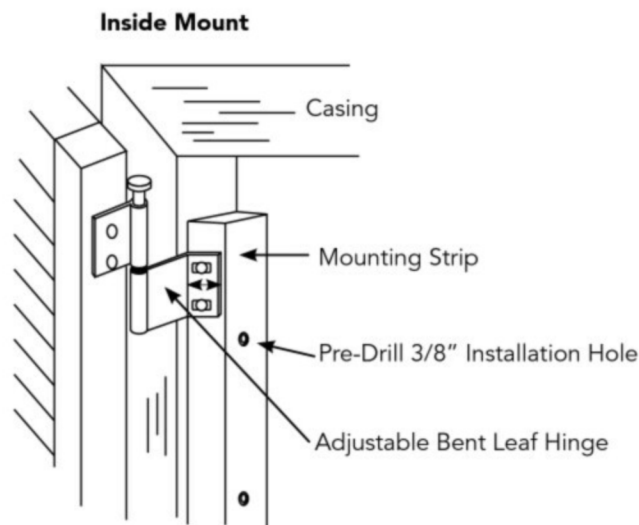

Fig. 5.1
- 3/8" diameter holes must be drilled at each hinge location. (See Fig. 5.1)
- Adjust the bent leaf hinges, if necessary. (See Fig. 5.1)